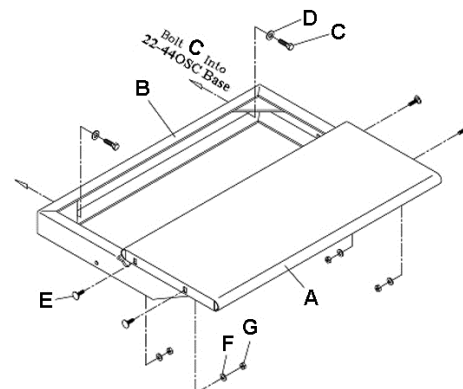

Figure 6
1. Bolt the *base bracket* (B, Fig. 6) to the sander base with two 3/8"-16 x 1" *hex head cap screws* (C) and two 3/8" *flat washers* (D). Tighten the screws.